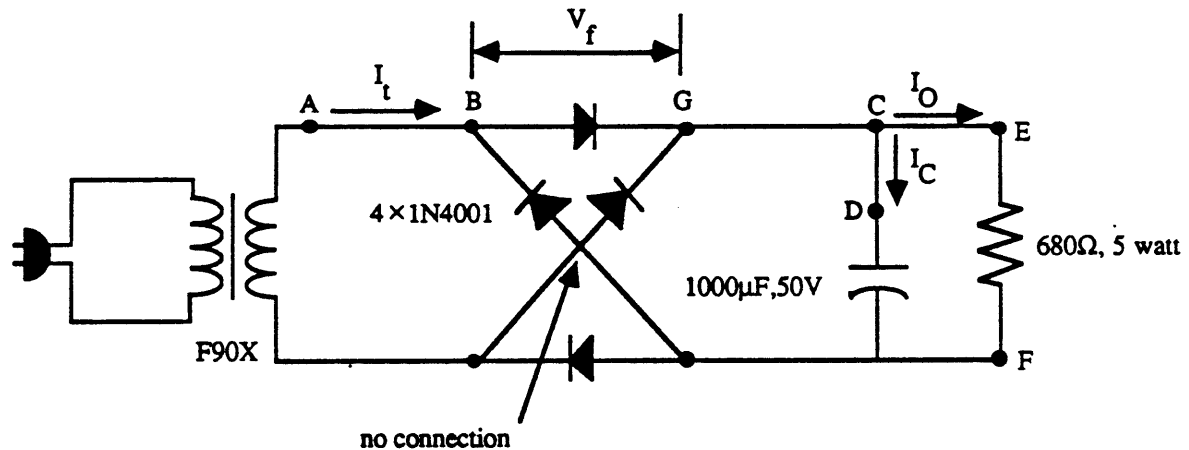

Figure 5.3 Full-wave Bridge Rectifier power supply
- (2) Remove the short between A and B. Connect the mA input of the DMM to point A and the COM to point B. Set the DMM to the 200 mA AC scale, and record I_t AC through the transformer.
- (3) Set the meter to DC, record I_t DC through the transformer, remove the meter, and short A to B.
- (4) Remove the short between C and D. Connect the mA input of the DMM to point C and the COM to point D, set the meter to the 200 mA AC scale, and record I_c AC through the capacitor.
- (5) Set the meter to DC, record I_c DC through the capacitor, remove the meter, and short C to D.
- (6) Remove the short between C and E. Connect the mA input of the DMM to point C and the COM to point E, set the meter to the 200 mA AC scale, and record I_o AC through the load.
- (7) Set the meter to DC, record I_o DC through the load, remove the meter, and short C to E.
- (8) Set the meter to the 200 V AC scale, connect the DMM (VKS) to E and (COM) F, and record V_o AC across the load.
- (9) Set the meter to DC, record V_o DC across the load, and remove the meter.
- (10) Set the scope to 0.2 V/cm and DC coupling, connect the scope GND to A, connect CH1 input to C (instead of point C use point G for the circuits of Figures 5.3 and 5.4), and record the peak forward voltage V_f across the diode.
- (11) Replace the short circuit between A and B with a 1 ohm resistor, connect the CH1 scope input to B, set the scope to 0.1 V/cm, record the peak voltage across the resistor (this is proportional to the forward current I_f through the diode), and remove the scope connections.
- (12) Repeat steps 2 through 11 using the circuit shown in Fig. 5.3. Record your data in Table 5.2 using the full-wave bridge column.
What will happen to the ripple voltage across the filter capacitor in Fig. 5.3 if we connect C to D to E and increase/decrease the resistance of the potentiometer/120 ohm/15 ohm ?